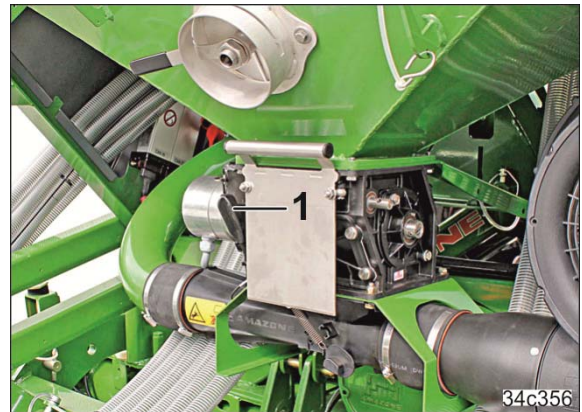

Fig. 219
- 5.1 Remove the key (Fig. 219/1) from the holder.